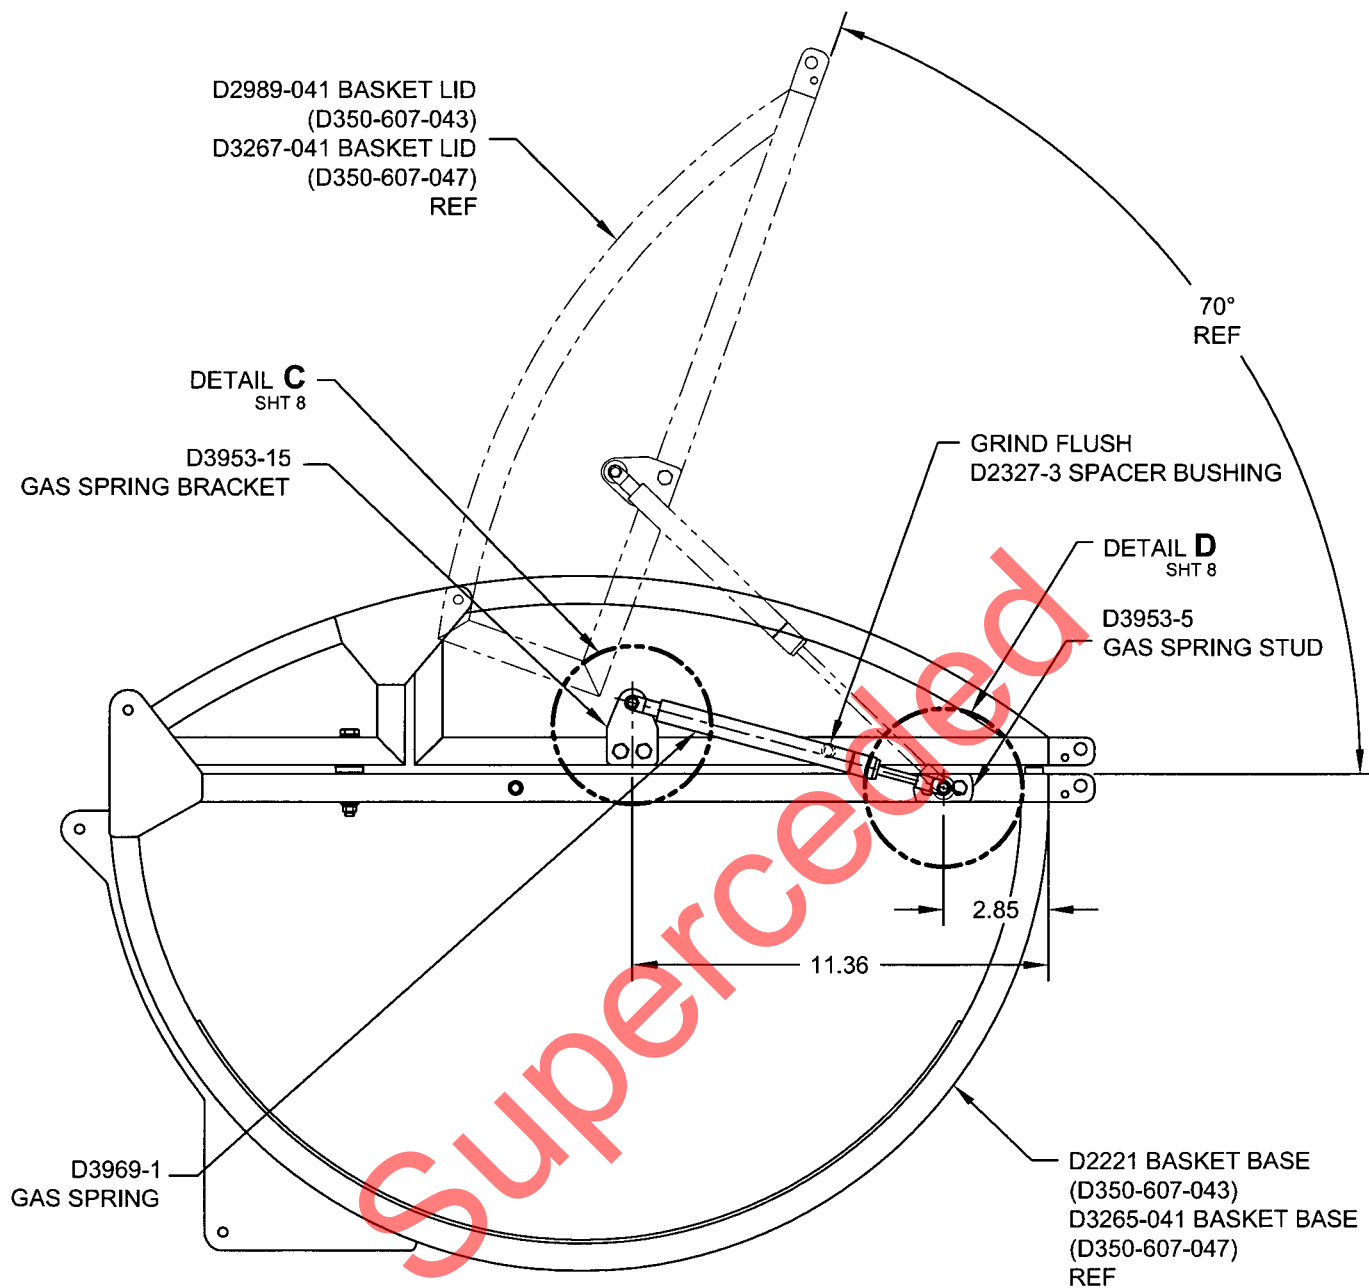

FIGURE 2
- 2) GRIND FLUSH THE D2327-3 SPACER BUSHING ON THE END OF THE BASKET WHERE THE GAS SPRING KIT IS BE INSTALLED AS SHOWN IN FIGURE 2 (IT IS PERMISSIBLE TO GRIND ALL 4 SPACERS FLUSH). TOUCH UP PAINT PER ICA-D350-607 REV. 0 SECTION 5.1 ITEM 4.
- 3) LOCATE THE D3953-15 GAS SPRING BRACKET AS SHOWN IN FIGURE 2. TRIM STEEL MESH LOCALLY AS REQUIRED. TOUCH UP PAINT PER ICA-D350-607 REV. 0 SECTION 5.1 ITEM 4. TRANSFER MARK AND DRILL 2X Ø0.194 HOLES THRU THE BASKET LID SQUARE TUBE STRUCTURE AS SHOWN IN DETAIL C. INSTALL THE D3953-15 GAS SPRING BRACKET & D3953-17 GAS SPRING SPACER USING 2X AN3C15A BOLT, 2X NAS1149C0332 WASHER & 2X MS21043-3 NUT AS SHOWN IN VIEW G-G.
- 4) LOCATE THE D3953-5 GAS SPRING STUD AS SHOWN IN FIGURE 2. TRIM STEEL MESH LOCALLY AS REQUIRED. TOUCH UP PAINT PER ICA-D350-607 REV. 0 SECTION 5.1 ITEM 4. TRANSFER MARK AND DRILL 2X Ø0.194 HOLES THRU THE BASKET BASE SQUARE TUBE STRUCTURE AS SHOWN IN DETAIL D. INSTALL 2X AN3C11A BOLT, 2X NAS1149C0332 WASHER & 2X MS21043-3 NUT AS SHOWN IN VIEW H-H. INSTALL THE ROD END OF THE D3969-1 GAS SPRING ONTO THE D3953-3 GAS SPRING STUD USING 1X D3953-9 GAS SPRING WASHER, 1X NAS1149C0432H WASHER, 1X AN310-4 CASTELATTED NUT & 1X MS24665-212 COTTER PIN AS SHOWN IN VIEW H-H. INSTALL COTTER PIN PER MS33540 OR AC43.13 CHAPTER 7-127.